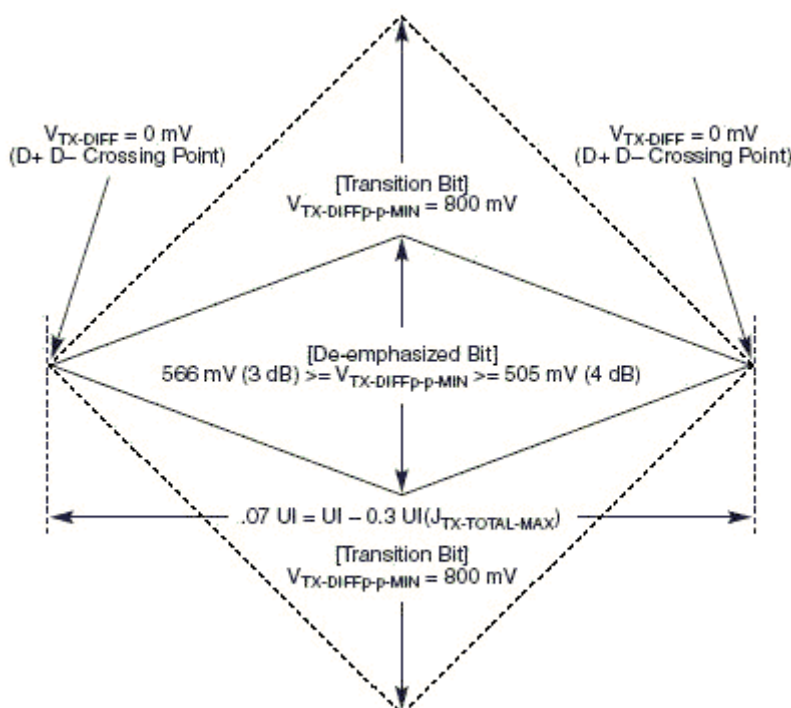
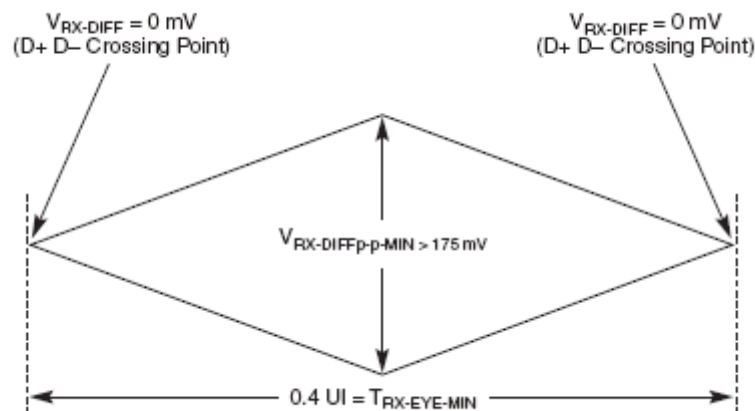
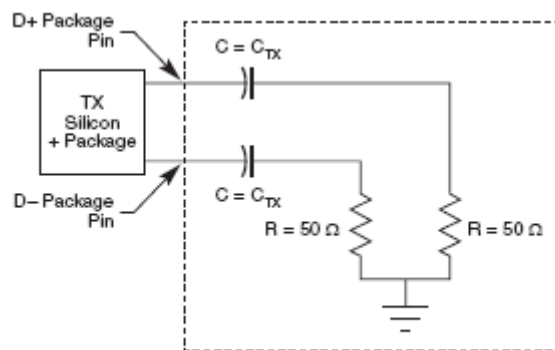

Figure 50. Minimum Transmitter Timing and Voltage Output Compliance Specifications
Figure 51. Minimum Receiver Eye Timing and Voltage Compliance Specification
Figure 52. Compliance Test/Measurement Load
2. Specified at the measurement point into a timing and voltage compliance test load as shown in Figure 52 and measured over any 250 consecutive TX UIs. (Also refer to the transmitter compliance eye diagram shown in Figure 50)
4. The Transmitter input impedance shall result in a differential return loss greater than or equal to 12 dB and a common mode return loss greater than or equal to 6 dB over a frequency range of 50 MHz to 1.25 GHz. This input impedance requirement applies to all valid input levels. The reference impedance for return loss measurements is 50 Ω to ground for both the D+ and D- line (that is, as measured by a Vector Network Analyzer with 50 ohm probes—see Figure 52). Note that the series capacitors C_{TX} is optional for the return loss measurement.
5. Measured between 20-80% at transmitter package pins into a test load as shown in Figure 52 for both V_{TX-D+} and V_{TX-D-} .
The TX eye diagram in Figure 50 is specified using the passive compliance/test measurement load (see Figure 52) in place of any real PCI Express interconnect + RX component.
2. Specified at the measurement point and measured over any 250 consecutive UIs. The test load in Figure 52 should be used as the RX device when taking measurements (also refer to the Receiver compliance eye diagram shown in Figure 51). If the clocks to the RX and TX are not derived from the same reference clock, the TX UI recovered from 3500 consecutive UI must be used as a reference for the eye diagram.
4. The Receiver input impedance shall result in a differential return loss greater than or equal to 15 dB with the D+ line biased to 300 mV and the D- line biased to -300 mV and a common mode return loss greater than or equal to 6 dB (no bias required) over a frequency range of 50 MHz to 1.25 GHz. This input impedance requirement applies to all valid input levels. The reference impedance for return loss measurements for is 50 Ω to ground for both the D+ and D- line (that is, as measured by a Vector Network Analyzer with 50 ohm probes - see Figure 52). Note: that the series capacitors C_{TX} is optional for the return loss measurement.
The RX eye diagram in Figure 51 is specified using the passive compliance/test measurement load (see Figure 52) in place of any real PCI Express RX component.
Note: In general, the minimum Receiver eye diagram measured with the compliance/test measurement load (see Figure 52) will be larger than the minimum Receiver eye diagram measured over a range of systems at the input Receiver of any real PCI Express component. The degraded eye diagram at the input Receiver is due to traces internal to the package as well as silicon parasitic characteristics which cause the real PCI Express component to vary in impedance from the compliance/test measurement load. The input Receiver eye diagram is implementation specific and is not specified. RX component designer should
provide additional margin to adequately compensate for the degraded minimum Receiver eye diagram (shown in Figure 51) expected at the input Receiver based on some adequate combination of system simulations and the Return Loss measured looking into the RX package and silicon. The RX eye diagram must be aligned in time using the jitter median to locate the center of the eye diagram.
The reference impedance for return loss measurements is 50Ω to ground for both the D+ and D- line (that is, as measured by a Vector Network Analyzer with 50Ω probes—see Figure 52). Note that the series capacitors, C_{TX} , are optional for the return loss measurement.
The AC timing and voltage parameters must be verified at the measurement point, as specified within 0.2 inches of the package pins, into a test/measurement load shown in Figure 52.